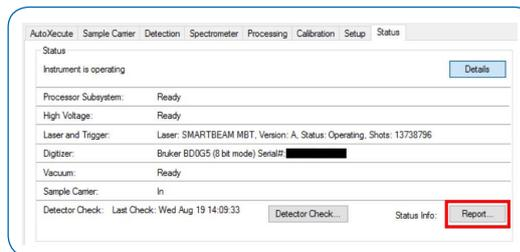

Figure 6.2 The Status Tab
- Go to the “Status” tab and click on “Report” (see Figure 6.2)